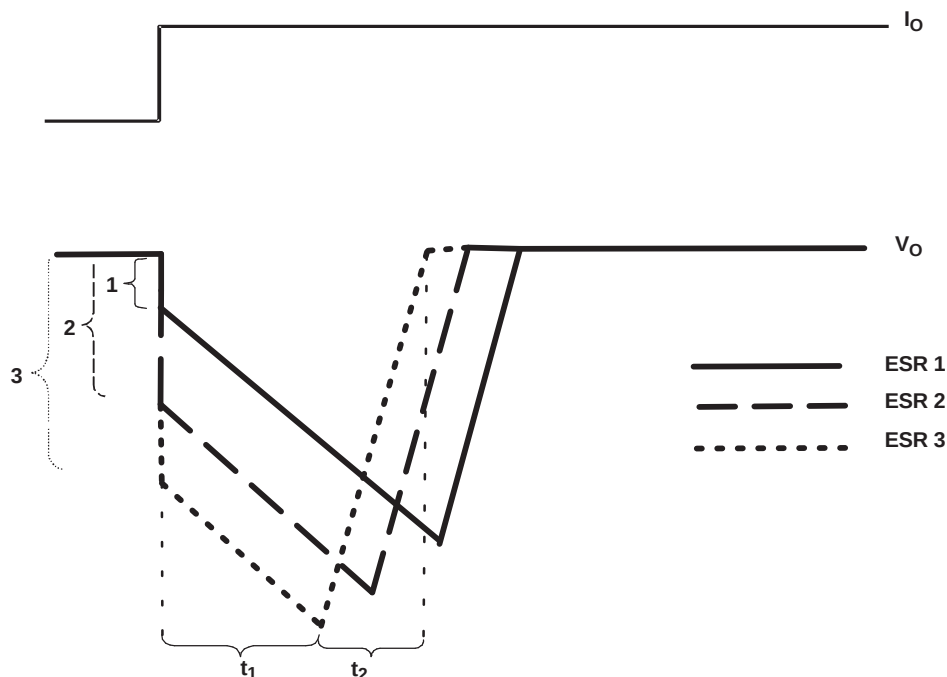

Figure 45. Correlation of Different ESRs and Their Influence on the Regulation of V_O at a Load Step from Low-to-High Output Current
- The LDO is not able to supply the sudden current need because of its response time (t_1 in Figure 45). Therefore, capacitor C_O provides the current for the new load condition (dashed arrow). C_O now acts like a battery with an internal resistance, ESR. Depending on the current demand at the output, a voltage drop occurs at R_{ESR} . This voltage is shown as V_{ESR} in Figure 40.
- When C_O is conducting current to the load, initial voltage at the load will be $V_O = V_{(CO)} - V_{ESR}$. As a result of the discharge of C_O , the output voltage V_O drops continuously until the response time t_1 of the LDO is reached and the LDO resumes supplying the load. From this point, the output voltage starts rising again until it reaches the regulated voltage. This period is shown as t_2 in Figure 45.
Figure 45 also shows the impact of different ESRs on the output voltage. The left brackets show different levels of ESRs where number 1 displays the lowest and number 3 displays the highest ESR.